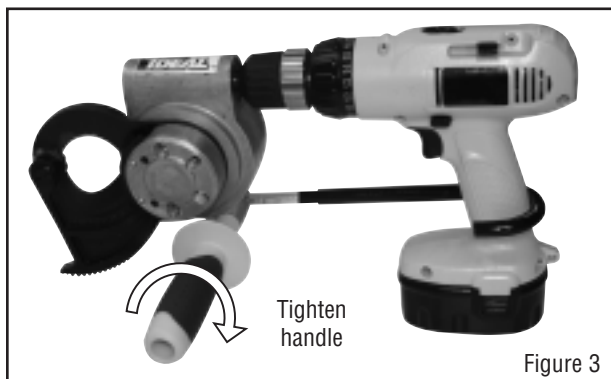

Figure 3
STEP 3: Loop torque arm around drill handle and tighten handle into locking collar to lock torque arm in place (Figure 3). Do not operate tool without torque arm in place.